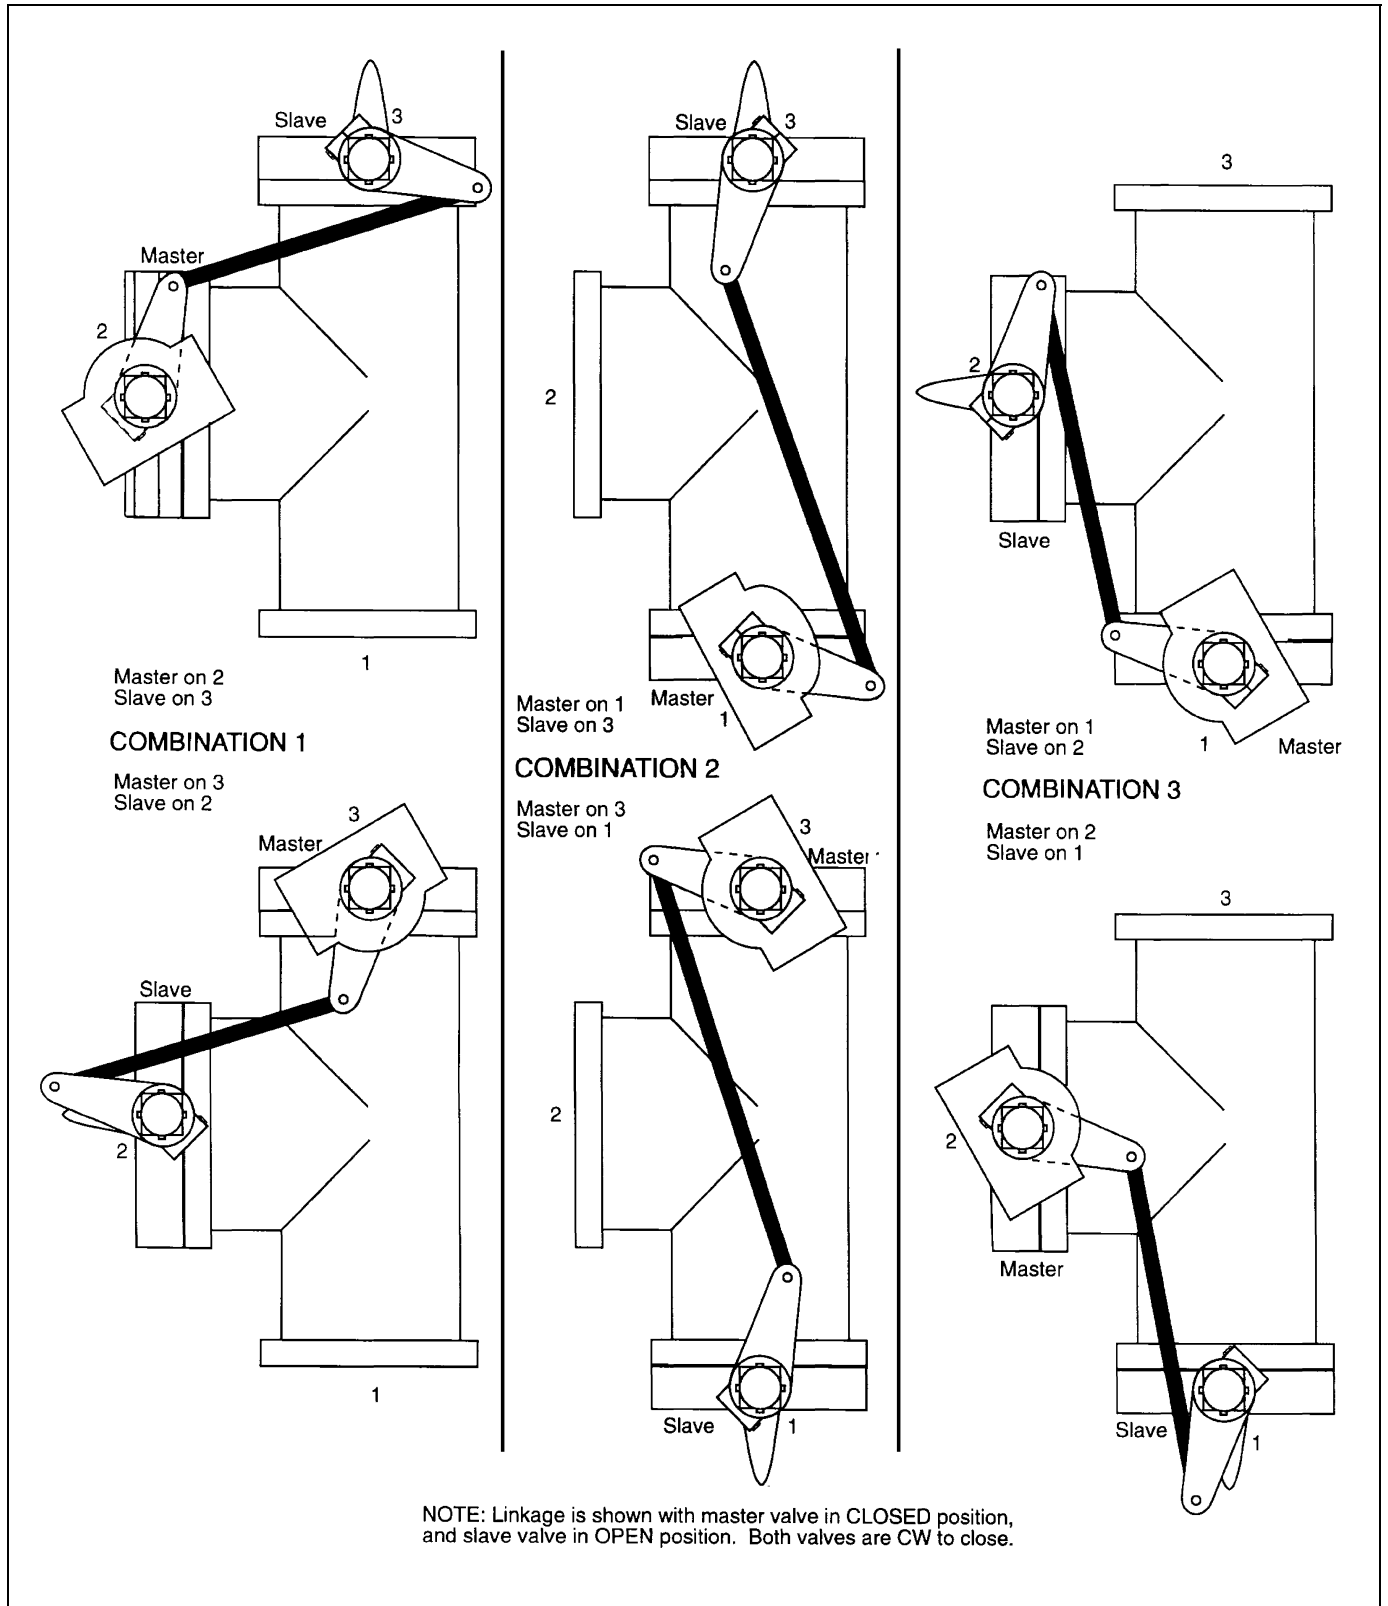

Figure 1 – Combinations of Master and Slave Linkage
2. a. If the actuator is mounted to the bracket mount the actuator and the arm to the valve. See Figure 1 for linkage arm location. Be sure the arm fits the key in the valve stem. The witness notch in the outside diameter of the bracket should be above the arm.
b. If the actuator is not mounted to the bracket, mount the bracket and the arm to the valve. See Figure 1. Be sure the arm fits the key in the valve stem. The witness notch in the outside diameter of the bracket should be above the arm. Mount the actuator to the bracket as described in the actuator instructions for mounting to the valve.
2. Put the arm on the valve stem. See Figure 1 for location. Be sure the arm fits the key.